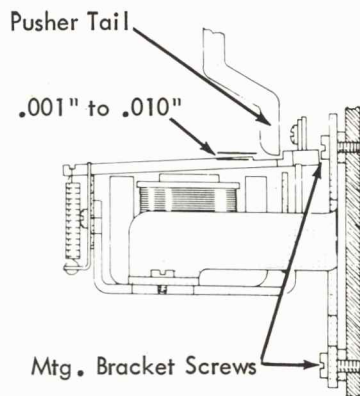

FIGURE 16. Mounting Bracket Positions
8. Mounting Bracket (Fig. 16) - Position under its four mounting screws for .001" to .010" clearance between the pusher tails and armatures.